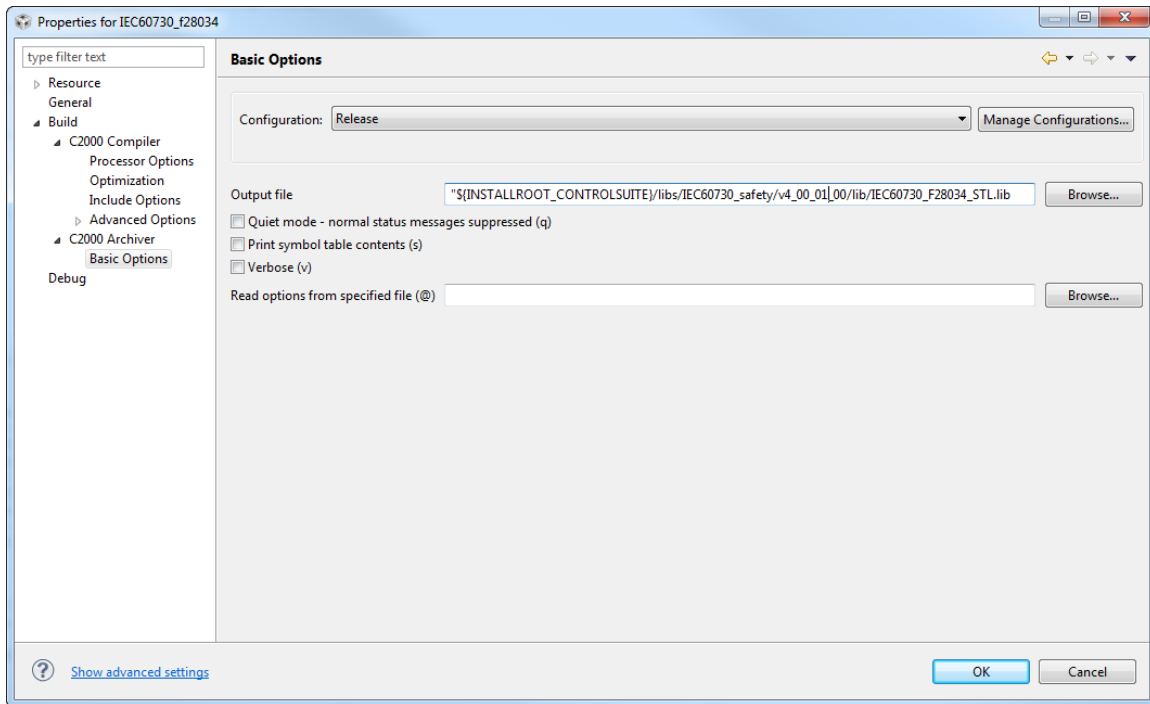

Figure G.3: Setting Library Output name and Directory
8. Click on **Projects** menu > click on **Properties** > expand to **Build** > **C2000 Archiver** > **Basic Options**. In the **Basic Options** in **Output file** text box type in the name of the library and the directory to place the library. For instance if building for f28034, enter **"\$(INSTALLROOT_CONTROLSUITE)/libs/IEC60730_safety/v4_00_01_00/lib/IEC60730_F28034_STL.lib"** > click **OK**. This will set the name of the library and the directory it will be placed after it is built. See figure G.3.